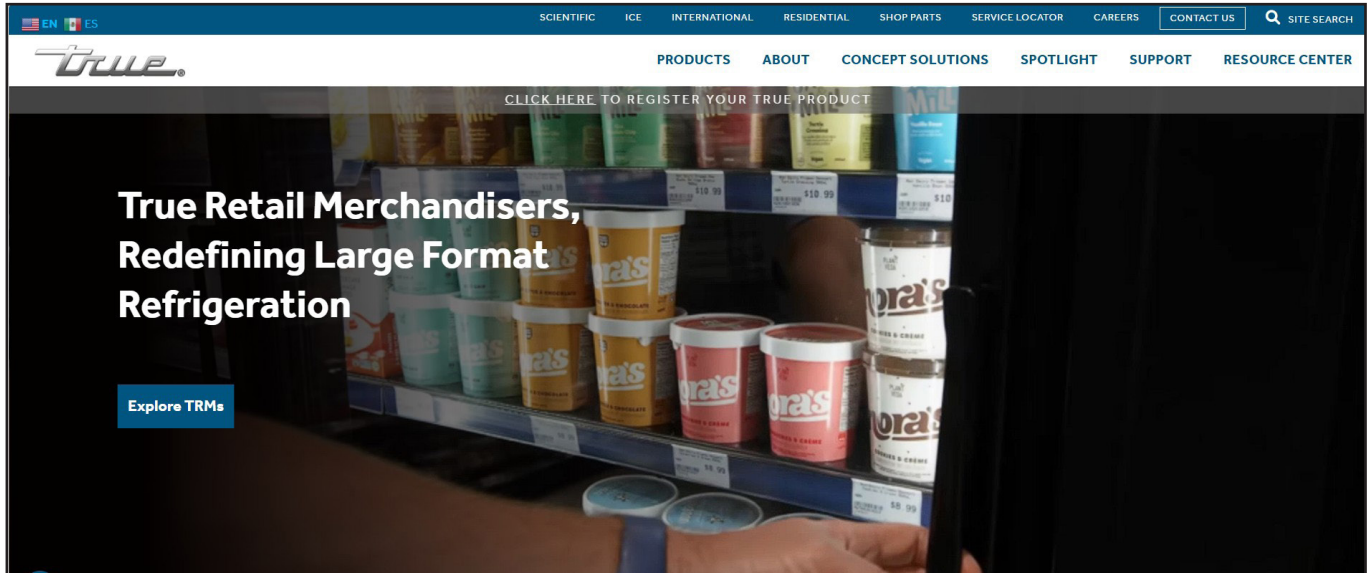

Fig. 2. Visit www.truemfg.com.
2. Visit www.truemfg.com. See fig. 2.